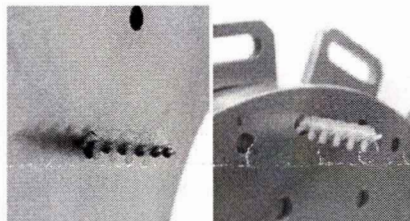

Fig.2 Insertion of the brush 2
- ② Keep inserting the brush to the other side. (See Fig. 2)
- ③ Repeat this cleaning method several times until the hole is cleaned up. Try to put alcohol to the brush for cleaning if foreign substances are still adhered in spite of many trials.
- ④ Blow air after the cleaning